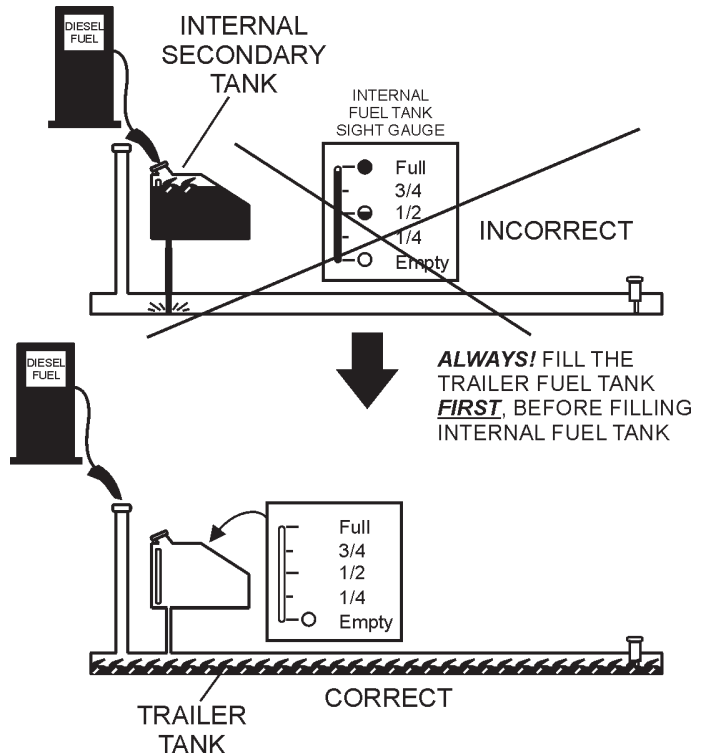

Figure 34. Fuel Tank Filling Order
2. **Trailer Fuel Tank First** – The trailer fuel tank is the primary fuel tank and holds a larger capacity of fuel. The fuel in the trailer will be filtered and sent to the engine. **ALWAYS** fill trailer fuel tank (Figure 34) first.